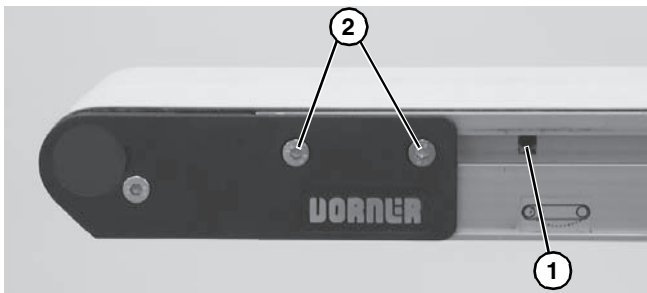

Figure 8
- With a 5 mm hex-key wrench, rotate pinion gear (**Figure 8, item 1**) to tension the conveyor belt. Tighten fastening screws (**Figure 8, item 2**) on both sides of conveyor to 80 in-lb (9 Nm). For proper tensioning, refer to “Conveyor Belt Tensioning” on page 13”.